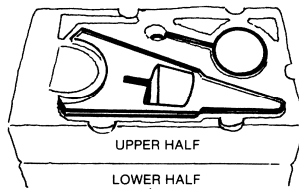

Figure 3. Base and Specific Gravity Stand in Container.
1. Remove the poly-container from the shipping carton and place it so that you can see the base and specific gravity stand. See Figure 3.